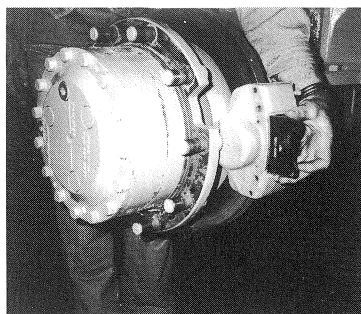

Fig. 55
- (5) Draw out brake pads laterally (Fig. 55).